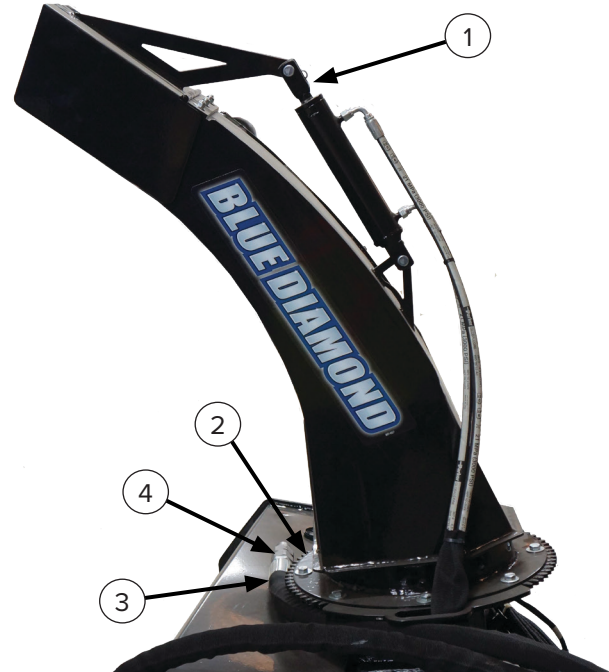

Figure 9
2. Place a strap under the cylinder top clevis (Item 1) [Figure 9] and secure to a proper lifting device. Use lifting device and strap of adequate size (chute weight approx. 60 lbs).
3. Remove retainer hardware (Item 2) and retainer rings (Item 3) [Figure 9].
5. Lift chute slightly and remove chute rotate gear (Item 4) [Figure 9] from top frame mount ring.